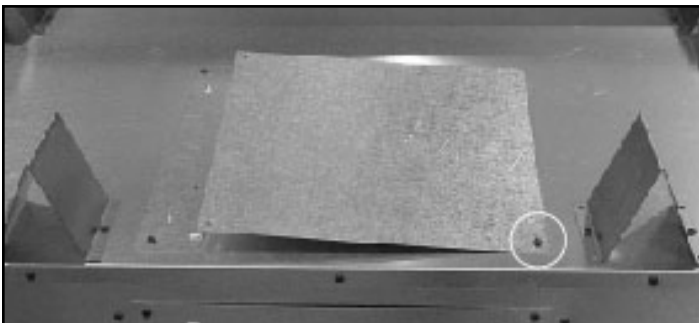

Figure 7.1 Cover Plate, Top of Appliance
- Remove the screw holding heat shield cover plate to top of appliance and set aside. See Figure 7.1